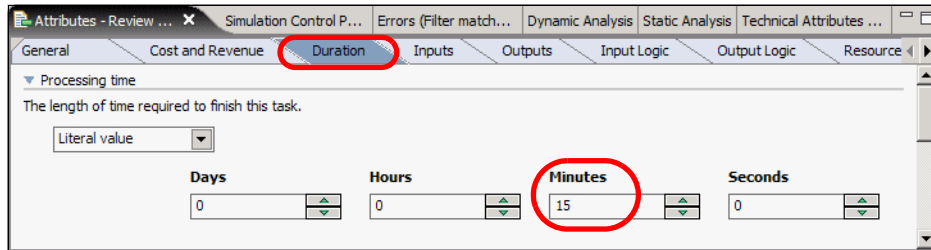

Figure 8-5 Activity duration for the Review Order activity
- ▶ In the process flow, select the activity, select the *Duration* tab, and enter the duration value for each of the Order Handling Future 1 process activities as shown in Figure 8-5 using the data from Figure 8-3 on page 167.